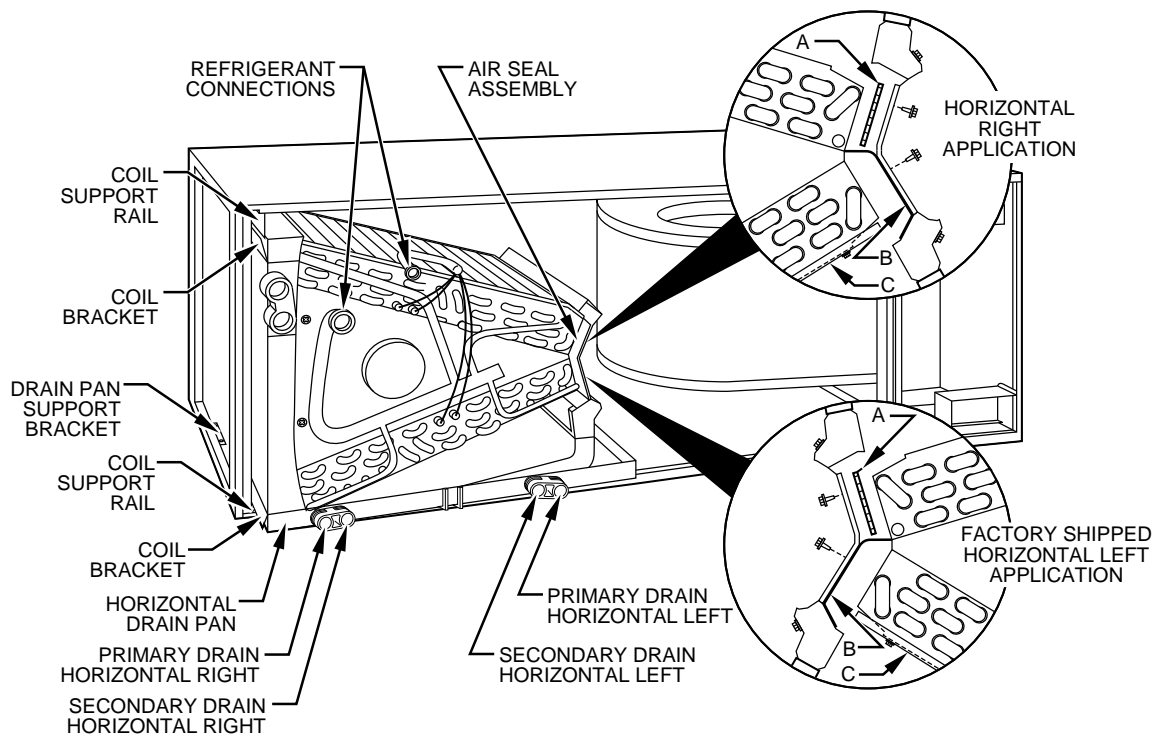

Fig. 6—A-Coil in Horizontal Right-Application
1. Remove blower and coil access panels. (See Fig. 6.)
- b. Remove air splitter (B) from coil seal assembly by removing 3 screws. (See Fig. 6—factory-shipped inset.)
- c. Remove filler plate (A) and install air splitter (B) in place of filler plate.
- d. Install filler plate (A) as shown in horizontal right application.
- e. Remove condensate troughs (C) and install on opposite tube sheets.